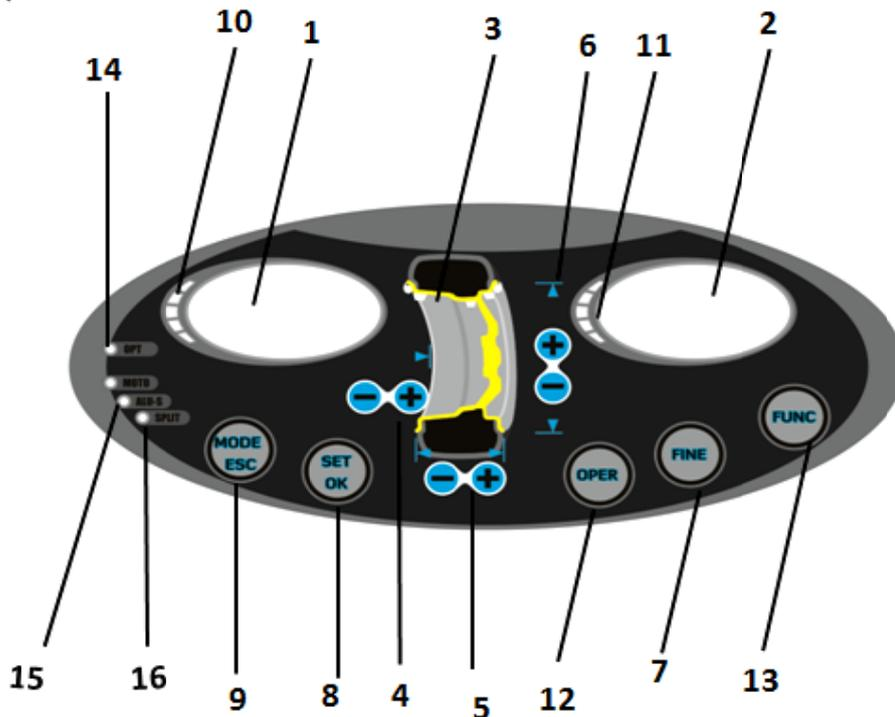
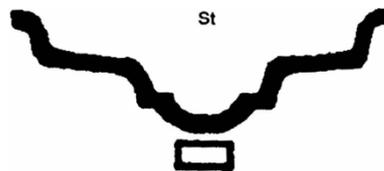
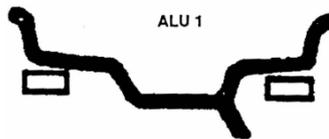
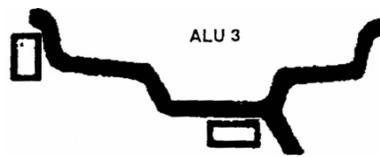

Fig 5-1
Fig 7-5
Fig 7-7
Fig 7-9
Fig 5-1 is figure of keyboard and display, introduction is as follows:
Slowly rotate wheel, when inside position indication LEDs all light, (Fig 5-1 (10)), at the 12 o'clock position of rim inside , clamp weights equal to value shown on the left side display (Fig 7-3). Then slowly rotate wheel, when outside position indication LEDs all light, (Fig 5-1 (11)), at the 12 o'clock position of rim outside , clamp weights t equal to value shown on the right side display (Fig 7-4) . Rotate wheel by hand again, move hand away when display is off. When both side display are on, wheel stops and balancing is completed.
Under normal mode, measure diameter d value (Fig 7-5), press [d-] or [d+] to input d value. (a value and b value can be any value) . Press [MODE] key to make ST mode indication light on, enter static (ST) balancing mode, mode indication as following figure.
Input rim data, manually rotate wheel, when display shows "RUN ---", move hand away to let wheel rotate. Then right display shows ST and left display shows static imbalance amount as Fig 7-6. After wheel stops rotating, slowly rotate wheel, when inside position indication LEDs (Fig 5-1 (10)) and outside position indication LEDs (Fig 5-1 (11)) all light, stick weights equal to value shown on the left side display, at the 12 o'clock position of middle rim (Fig 7-5). Again manually rotate wheel, when display shows "RUN ---", move hand away to let wheel rotate. When both side display are on, wheel stops and balancing is completed.
Input rim data, manually rotate wheel, when display shows “RUN ---”, move hand away to let wheel rotate. When display shows “STOP”, wheel stops and display shows data. Slowly rotate wheel, when inside position indication LEDs all light, (Fig 5-1 (10)), at the 12 o'clock position of rim inside edge , stick weights equal to value shown on the left side display (Fig 7-7 left) . Then slowly rotate wheel, when outside position indication LEDs all light, (Fig 5-1 (11)), at the 12 o'clock position of rim outside edge , stick weights equal to value shown on the right side display (Fig 7-7 right) . Rotate wheel by hand again, when display shows “RUN ---”, move hand away to let wheel rotate. When both side display are on, wheel stops and balancing is completed.
Input rim data, manually rotate wheel, when display shows “RUN ---”, move hand away to let wheel rotate. When display shows “STOP”, wheel stops and display shows data. Slowly rotate wheel, when inside position indication LEDs all light, (Fig 5-1 (10)), at the 12 o'clock position of rim inside edge , stick weights equal to value shown on the left side display (Fig 7-8 left) . Then slowly rotate wheel, when outside position indication LEDs all light, (Fig 5-1 (11)), at the 12 o'clock position of rim inside , stick weights equal to value shown on the right side display (Fig 7-8 right) . Rotate wheel by hand again, when display shows “RUN ---”, move hand away to let wheel rotate. When both side display are on, wheel stops and balancing is completed
Input rim data, manually rotate wheel, when display shows “RUN ---”, move hand away to let wheel rotate. When display shows “STOP”, wheel stops and display shows data. Slowly rotate wheel, when inside position indication LEDs all light, (Fig 5-1 (10)) , at the 12 o'clock position of rim inside edge , clamp weights equal to value shown on the left side display (Fig 7-9 left). Then slowly rotate wheel, when outside position indication LEDs all light, (Fig 5-1 (11)) , at the 12 o'clock position of rim inside , stick weights equal to value shown on the right side display (Fig 7-9 right) . Rotate wheel by hand again, when display shows “RUN ---”, move hand away to let wheel rotate. When both side display are on, wheel stops and balancing is completed